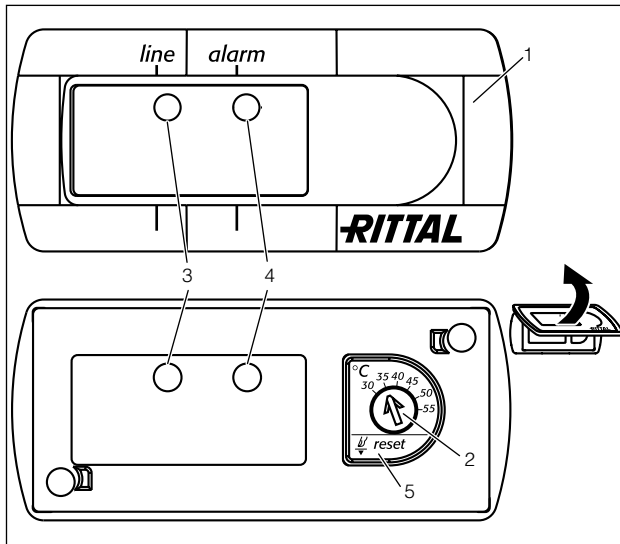

Fig. 26: Basic controller
The Basic controller monitors and controls the cooling unit. It indicates the operating and error status via the green and red LEDs (Fig. 26, nos. 3 and 4):
- Set the required temperature on the temperature setting device (Fig. 26, page 20).
- Press the reset button (Fig. 26, no. 5) for at least 3 sec.